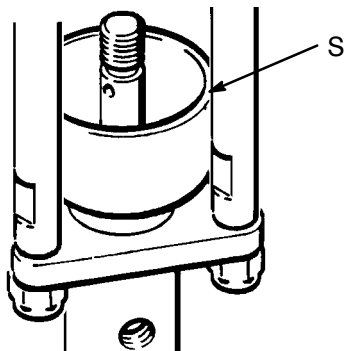

Fig. 3
Fill the displacement pump wet-cup (S) 1/3 full with Graco Throat Seal Liquid or a compatible solvent, to prevent fluid from drying on the displacement rod or damaging the packings. See Fig. 3.